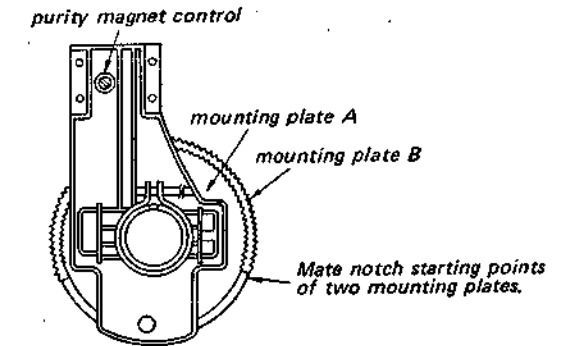

Fig. 4-1.
3. Set the purity magnet control to the mechanical centre to obtain minimum magnetic field as shown in Fig. 4-1.